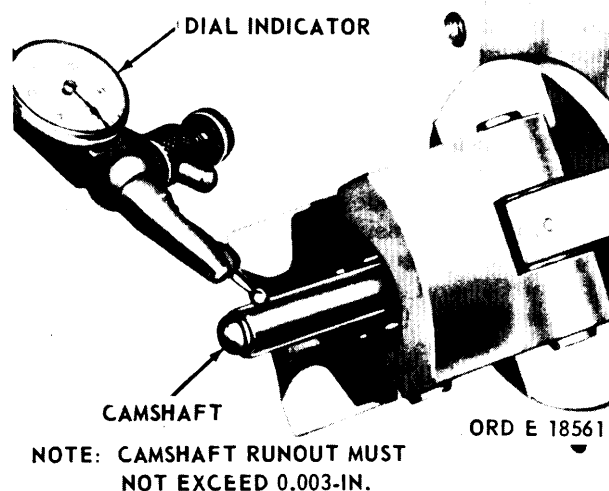

Figure 3-138. Checking camshaft run-out.
b. Refer to figure 3-138. Check camshaft run-out. Run-out should not exceed 0.003-inch. If camshaft run-out is between 0.003 to 0.005-inch straighten camshaft by suitable means. Replace the camshaft if camshaft cannot be straightened.